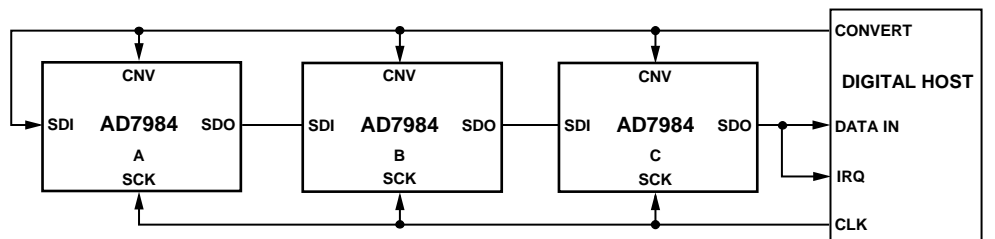
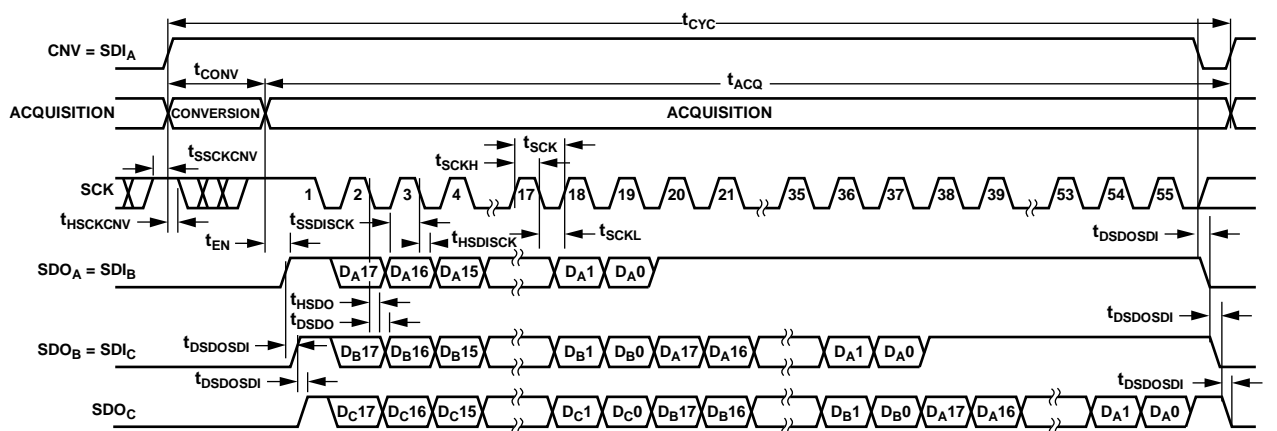

Figure 37. Chain Mode with Busy Indicator Connection Diagram
Figure 38. Chain Mode with Busy Indicator Serial Interface Timing
- In chain mode if SCK is high during the CNV rising edge (see Figure 38).
A connection diagram example using three AD7984s is shown in Figure 37, and the corresponding timing is given in Figure 38.
completed their conversions, the SDO pin of the ADC closest to the digital host (see the AD7984 ADC labeled C in Figure 37) is driven high. This transition on SDO can be used as a busy indicator to trigger the data readback controlled by the digital host. The AD7984 then enters the acquisition phase and goes into standby mode. The data bits stored in the internal shift register are clocked out, MSB first, by subsequent SCK falling edges. For each ADC, SDI feeds the input of the internal shift register and is clocked by the SCK falling edge. Each ADC in the chain outputs its data MSB first, and $18 \times N + 1$ clocks are required to read back the N ADCs. Although the rising edge can be used to capture the data, a digital host using the SCK falling edge allows a faster reading rate and, consequently, more AD7984s in the chain, provided the digital host has an acceptable hold time.